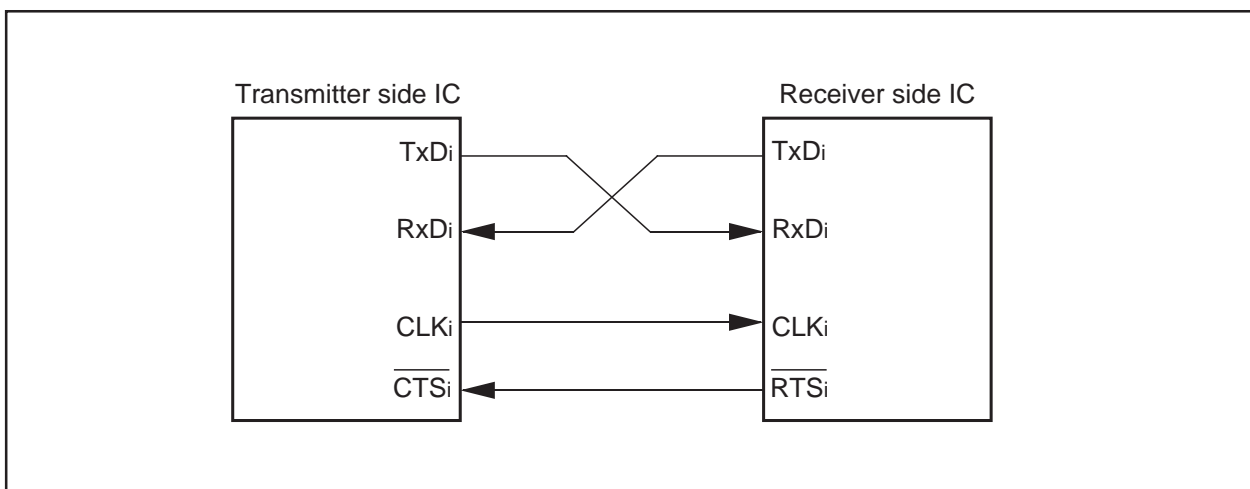

Figure 2.4.16. Example of wiring
- (1) With an external clock selected, and choosing the $\overline{\text{RTS}}$ function, the output level of the $\overline{\text{RTSi}}$ pin goes to “L” when the data-receivable status becomes ready, which informs the transmission side that the reception has become ready. The output level of the $\overline{\text{RTSi}}$ pin goes to “H” when reception starts. So if the $\overline{\text{RTSi}}$ pin is connected to the $\overline{\text{CTSi}}$ pin on the transmission side, the circuit can transmission and reception data with consistent timing. With the internal clock, the $\overline{\text{RTS}}$ function has no effect. Figure 2.4.16 shows an example of wiring.